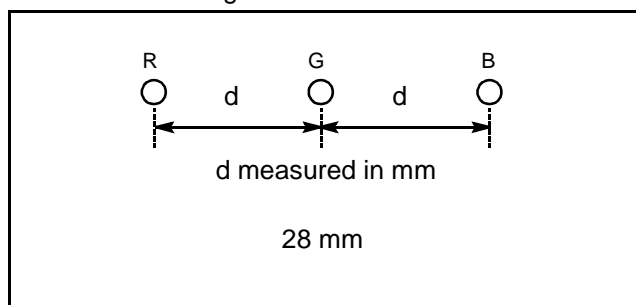

Figure 34. Centering Magnets Adjustment.
8. Adjust red centering magnets until the monoscope pattern center is at the appropriate distance as indicated on Figure 34.
11. Adjust blue centering magnets until the monoscope pattern center is at the appropriate distance as indicated on Figure 34.